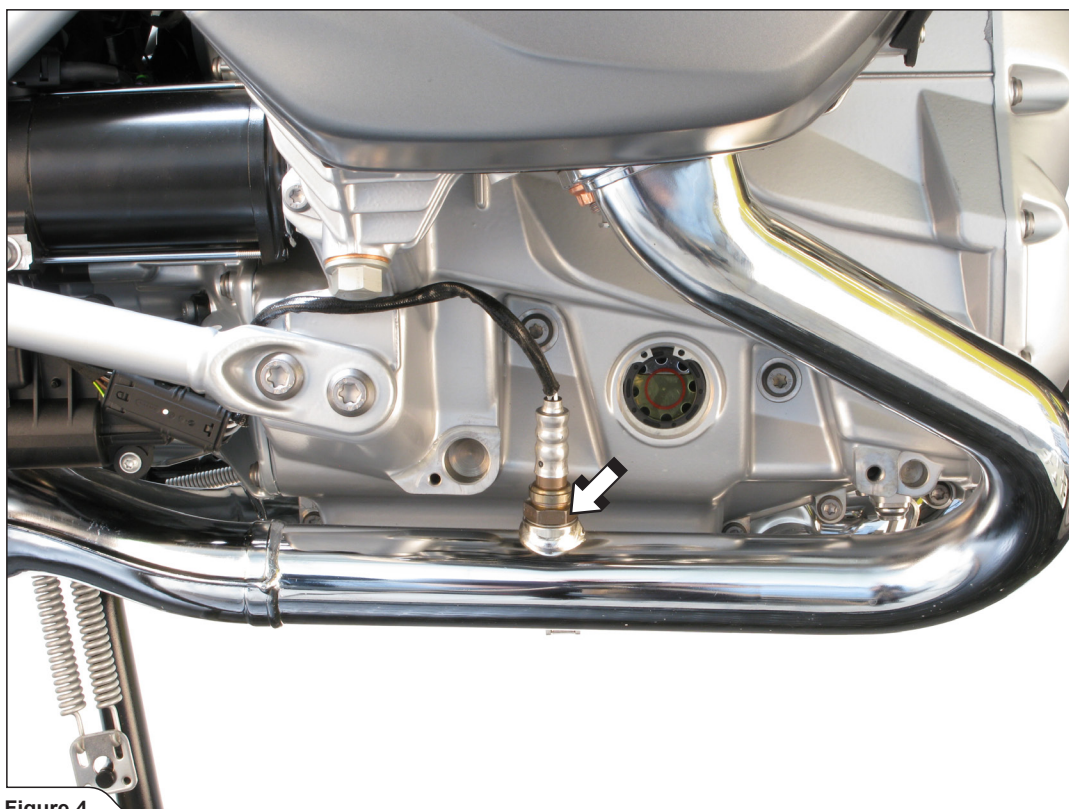

Figure 4
5. Unscrew the lambda sensors on both sides of the motorcycle (Figure 4).